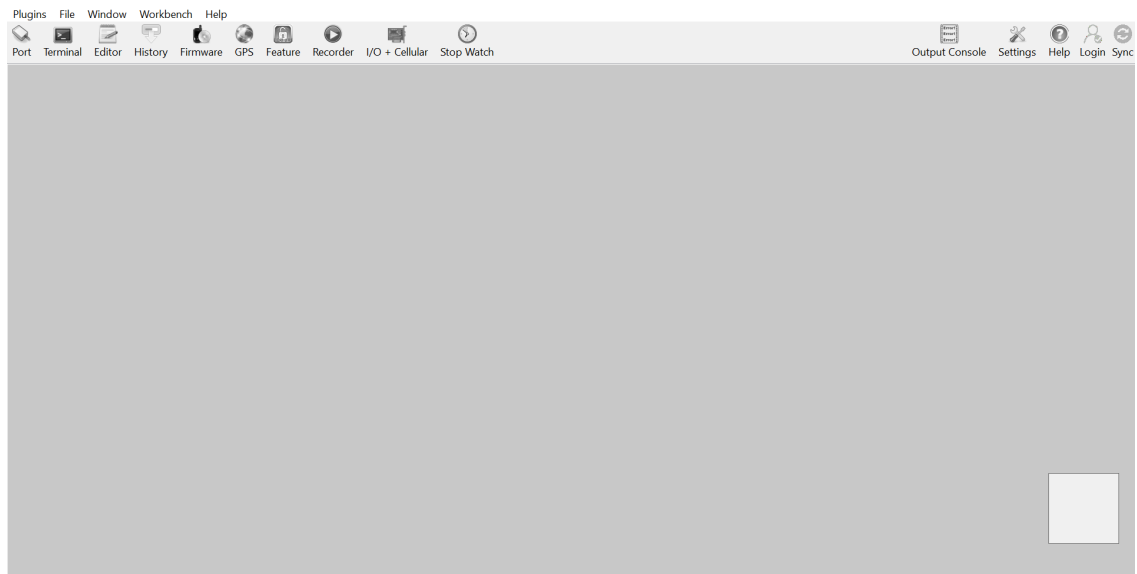

Figure 15: Workbench Interface
4. The Workbench UI displays (see **Figure 15**).